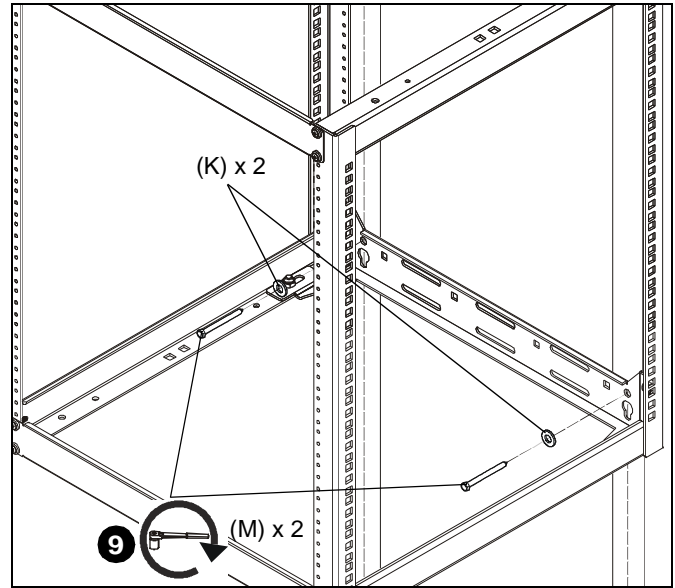

Figure 18
9. Use two 5/16" x 3 1/2" lag bolts (M) and two 3/4" spacers (K) to secure lower part of rack to wall. (See Figure 18)